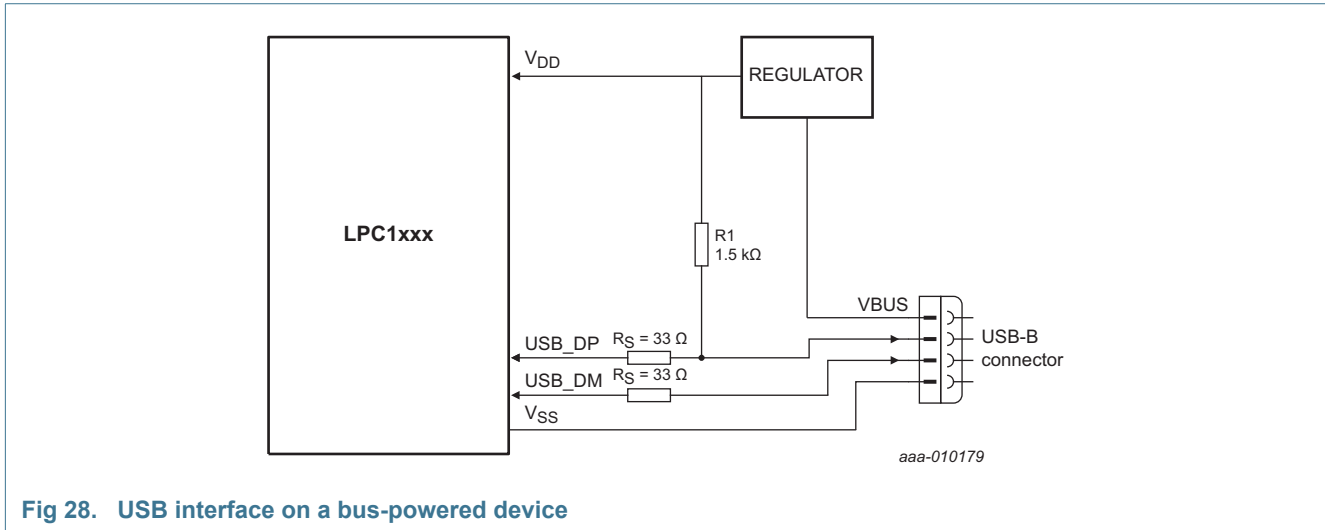

Fig 28. USB interface on a bus-powered device
The USB device can be connected to the USB as self-powered device (see Figure 27) or bus-powered device (see Figure 28).
For a bus-powered device, the VBUS signal does not need to be connected to the USB\_VBUS pin (see Figure 28). The  $\overline{\text{USB\_CONNECT}}$  function can additionally be connected as shown in Figure 27 to prevent the USB from timing out when there is a significant delay between power-up and handling USB traffic.
**Remark:** When a bus-powered circuit as shown in Figure 28 is used, configure the PIO0\_3/USB\_VBUS pin for GPIO (PIO0\_3) in the IOCON block to ensure that the  $\overline{\text{USB\_CONNECT}}$  signal can still be controlled by software. For details on the soft-connect feature, see the *LPC11U3x user manual* (Ref. 1).